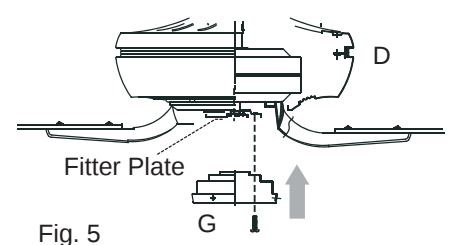

Fig. 5
5. Partially loosen two screws on fitter plate on underside of motor and remove the other screw. Align slotted holes in switch housing plate (G) with loosened screws on fitter plate. Twist switch housing plate (G) to lock. Re-insert the screw that was removed and securely tighten all three screws. [Fig. 5]